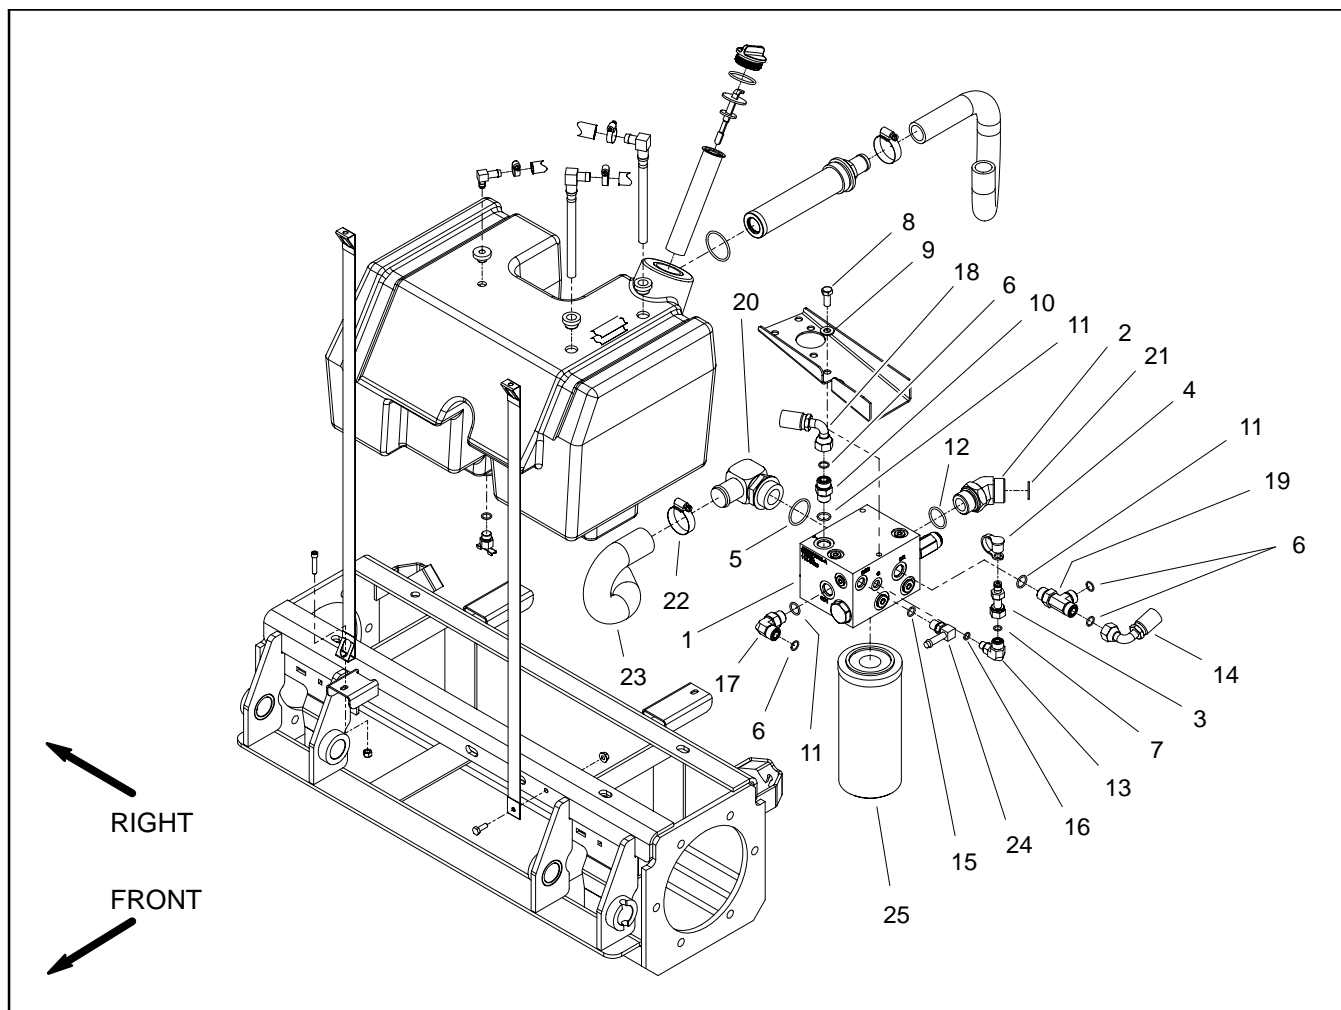

Figure 78
**Removal (Fig. 78)**
4. Remove filter manifold from the frame using Figure 78 as a guide.
**Installation (Fig. 78)**
2. Install filter manifold to the frame using Figure 78 as a guide.